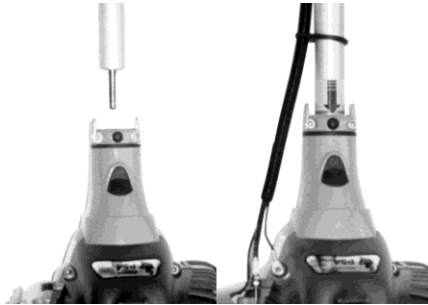

Fig. 3
**Rod-engine:** (Fig. 3). After orienting the rod, connect it to the engine by inserting it in the hole in the clutch case. In order to make sure that the rod has been inserted correctly, check that the red line on the label lines up with the profile of the rod retainer jaws. At this point, lock the rod in place in such way that it cannot be removed from the engine and screw down the two screws in the jaws.